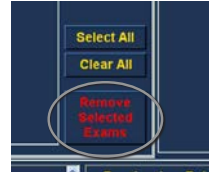

Figure 8.38 - Remove Selected Exams
2. Click on "Remove Selected Exams" as shown in Figure 8.38.